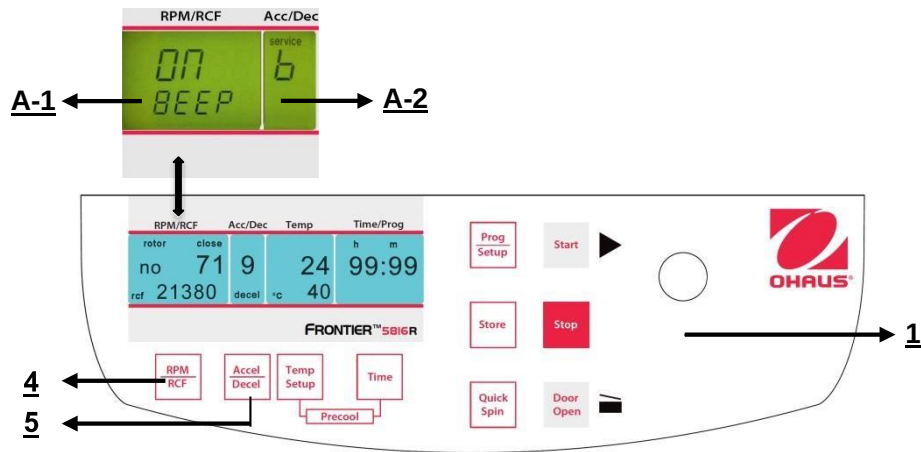

Figure. 35
Proceed as described under point 4.1.1 to enter this program mode and then press the key "**Accel/Decel**" (5). In the display "**Acc/Dec**" (A-2) the word "**Service**" flashes. Now select the letter "**B**". with the adjusting knob (1). As a result, in the display "**RPM | RCF**" (A-1), the word "**ON/BEEP**" appears. After pressing the key "**RPM | RCF**" (4), you can turn the keyboard sound (On) or (Off) with the adjusting knob (1). (See figure 35).